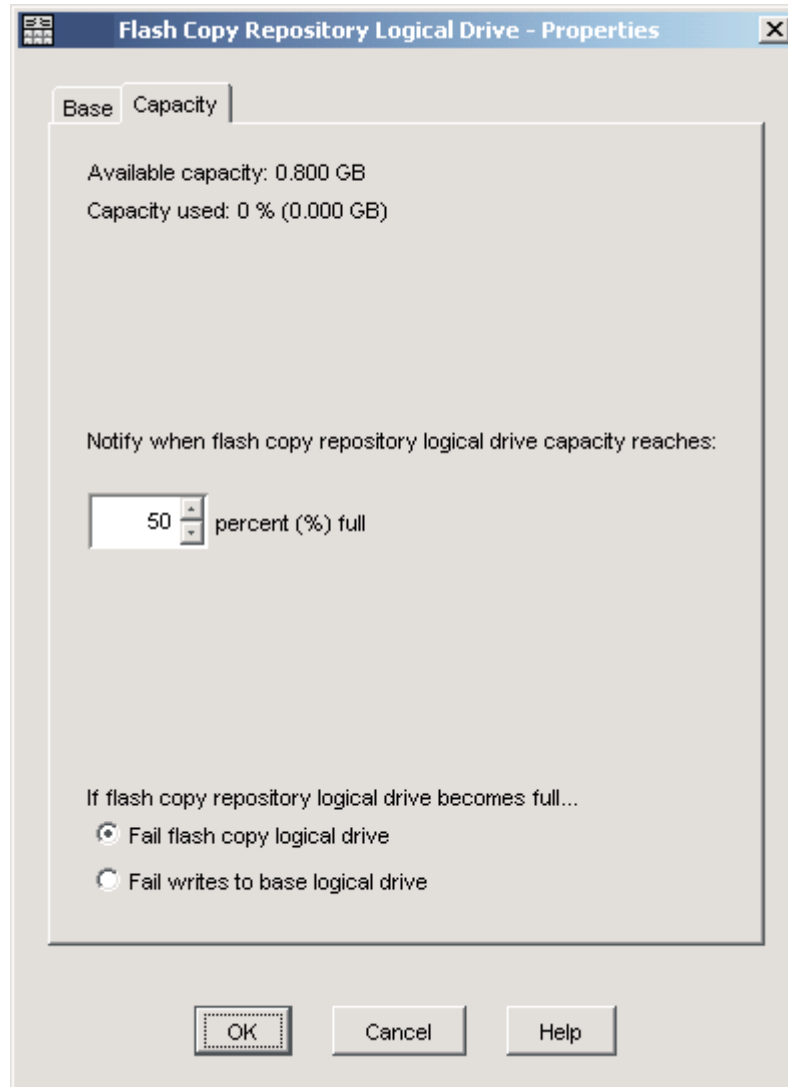

Figure 16. Repository capacity settings
3. Click the **Capacity** tab to view the currently defined settings, as shown in Figure 16 on page 45.